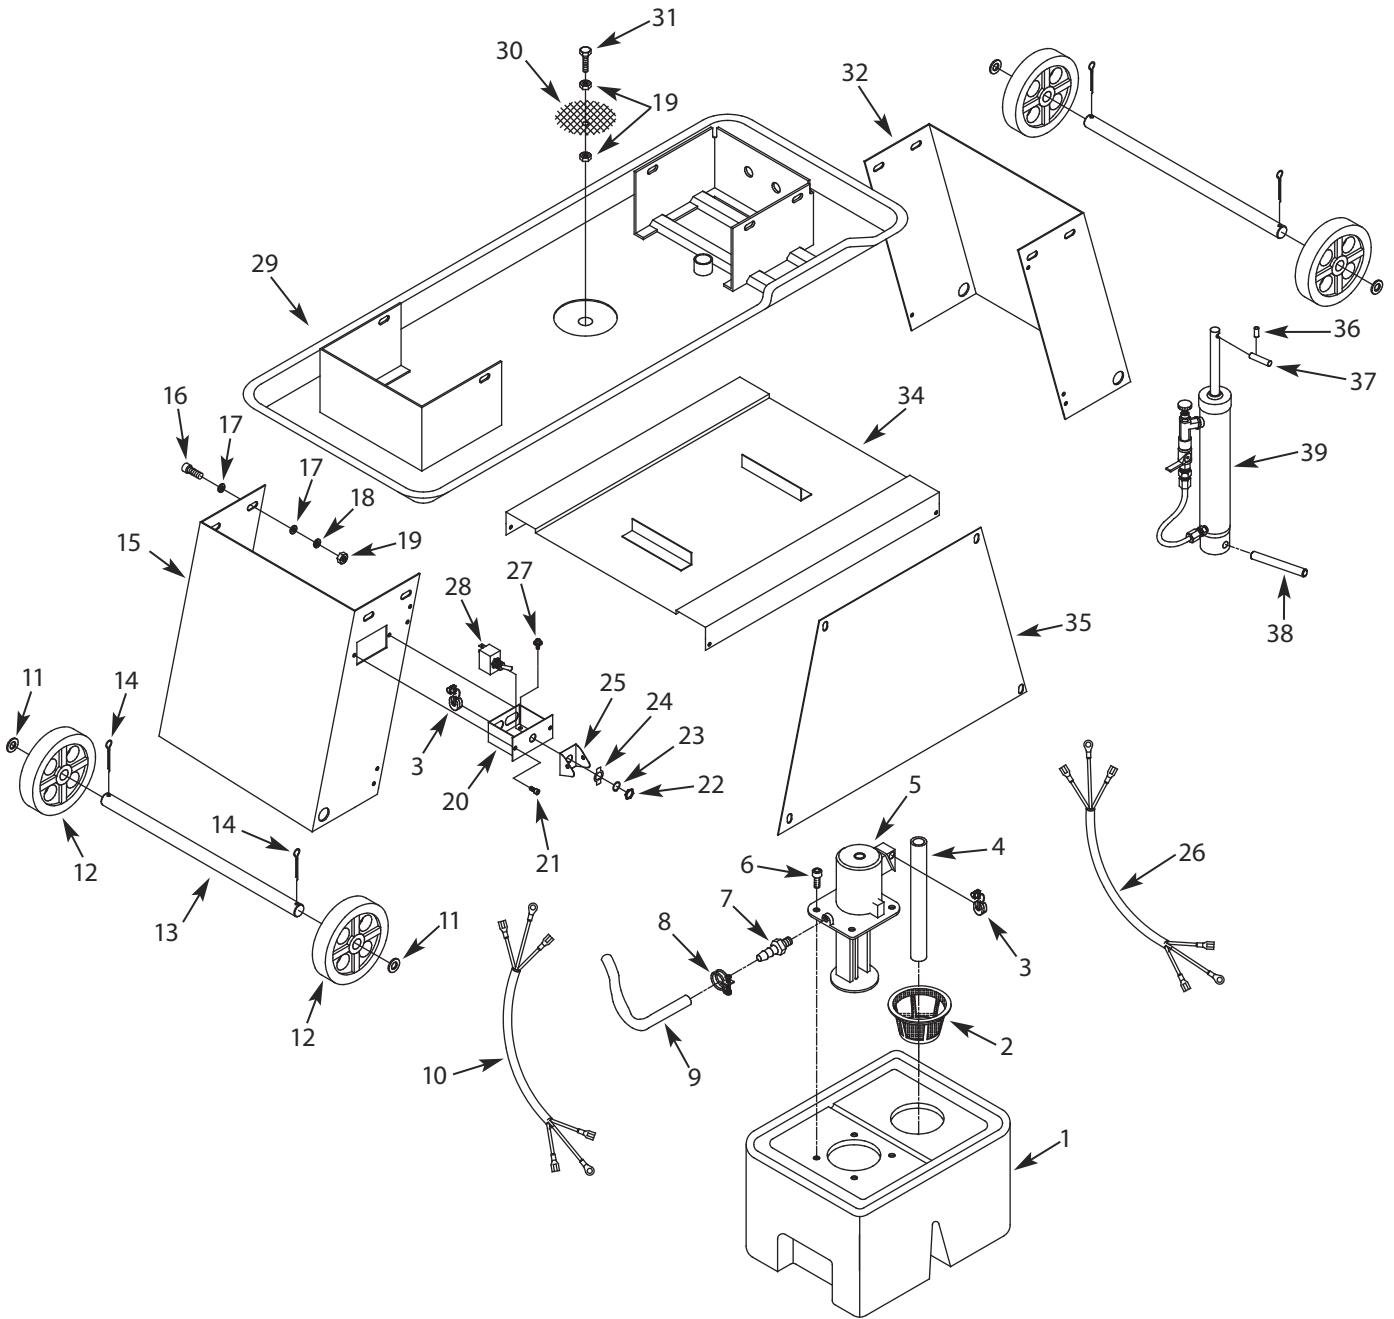

Figure 7 – Repair Parts Illustration for Base
3. Determining the proper feed is largely a judgement based on experience. The feed is usually determined during the cutting operation. Before the cutting begins, the blade should be off the work and the head should be held in position by closing the knob on the feed regulator (Figure 7, Ref. No. 40).
Refer to Figure 7.